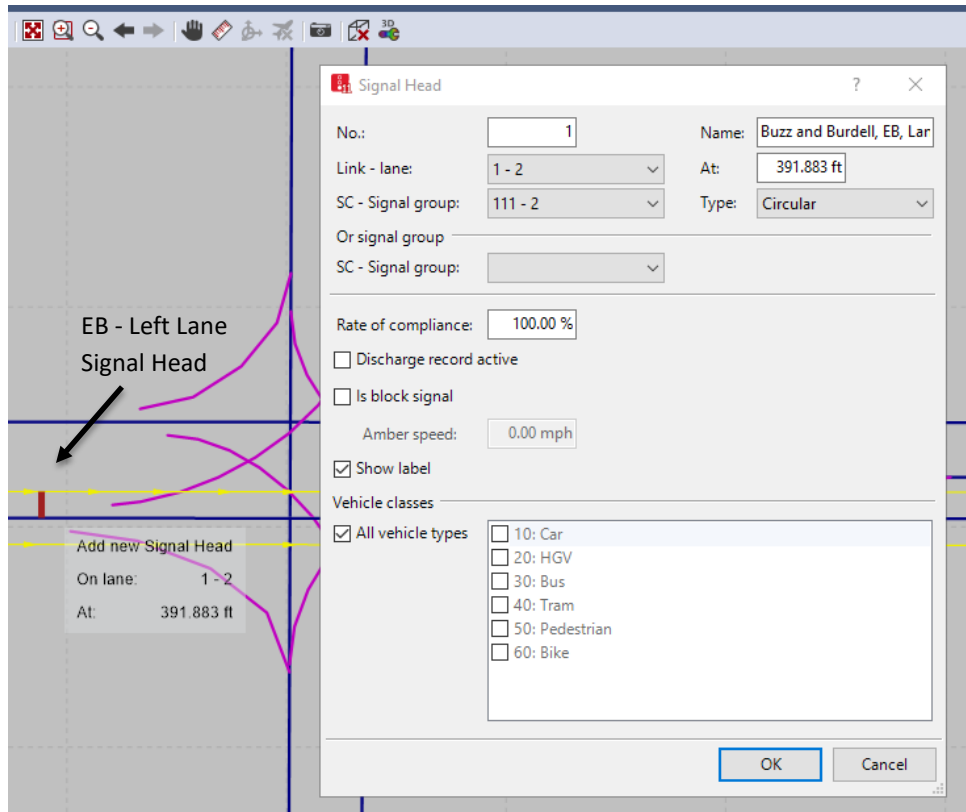

Figure 13: Signal head placement and pop-up window
- The *Signal Head* data window will pop up. Figure 13 shows the *Signal Head* pop-up window and the SH placed on the lane.